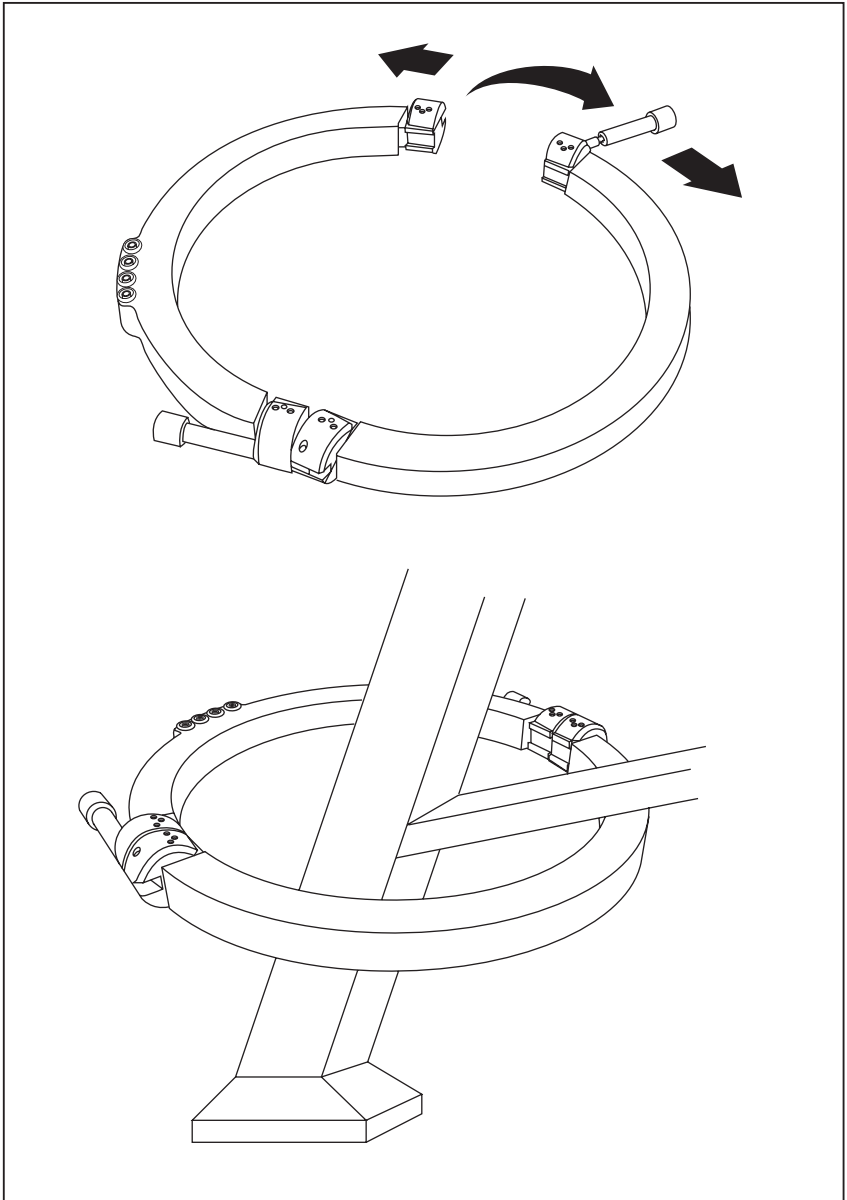

Figure 2. Installing Transformer Around Pylon
1. Loosen (or if required, remove) the fasteners. See Figure 2.
2. On the end face with the slotted bolt hole, pivot the fastener/bolt out of the way, and then separate the two halves of the Transformer. See Figure 2.
3. Install the Transformer around the pylon footing. See Figure 2.
4. Join the two halves of the Transformer so the end faces meet. On the end face with the slotted bolt hole, pivot the fastener/bolt into place. If fasteners were removed, install the fasteners. Tighten fasteners firmly. See Figure 2.